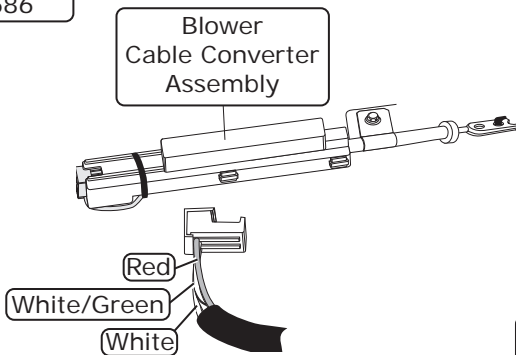

Figure 2
4. Locate the control panel wiring harness, and plug the corresponding connector into the cable converter assembly (See Figure 2, below).